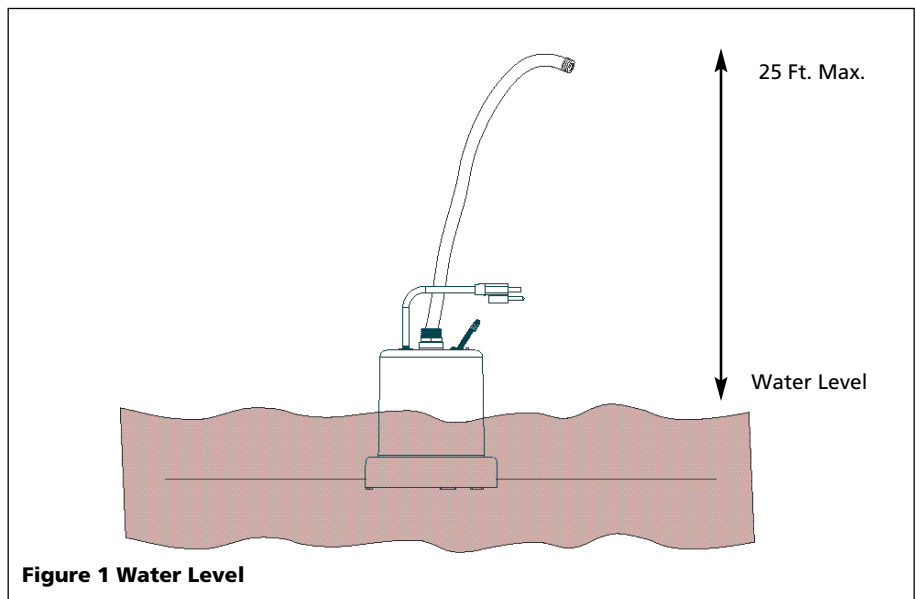

Figure 1 Water Level
- operate, unplug power cord and proceed to maintenance guideline item 4 in this section.
- b. Verify pumping height does NOT exceed 25 feet (See Figure 1). If pumping height is greater than 25 feet, this pump will NOT work.